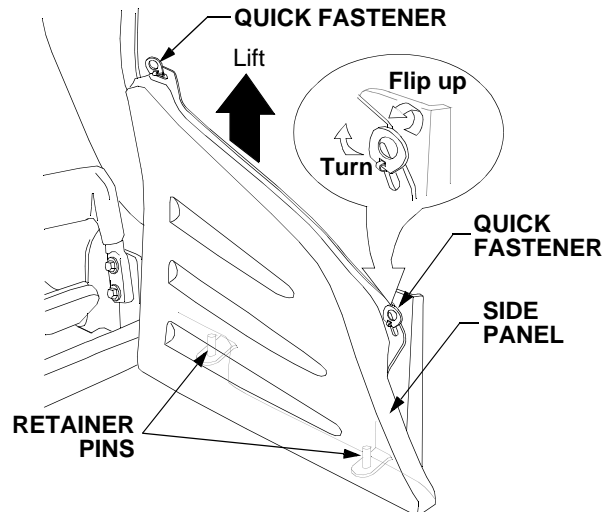

Figure 32
- Flip the tabs of the two quick release fasteners up and turn to align with the slots in the side panel. See Figure 32.
- Align the two holes in the bottom of the side panel with the retainer pins and slide the panel onto the pins. See Figure 32